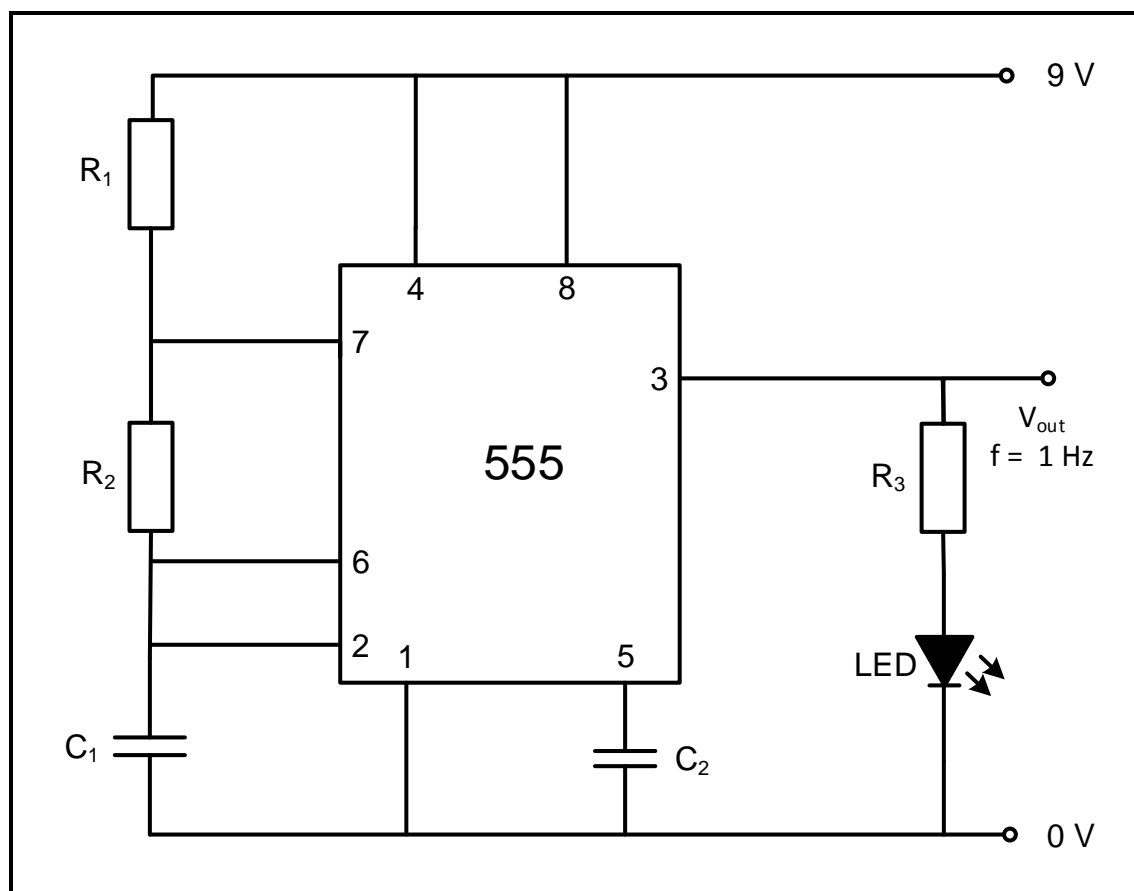

FIGURE 4.3: ASTABLE MULTIVIBRATOR
- 4.3 Refer to the astable multivibrator in FIGURE 4.3 below which has an output frequency of 1 hertz. Answer the questions that follow.